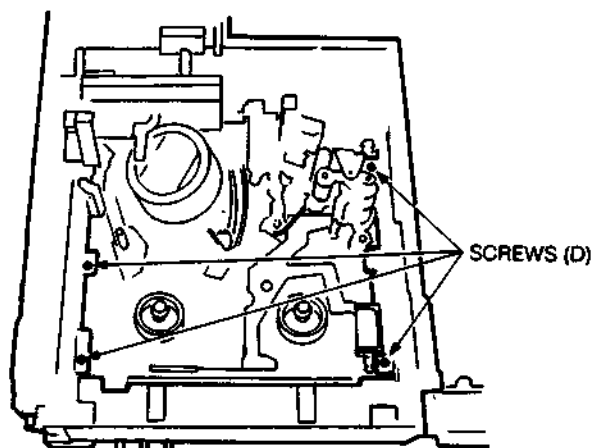

Fig. 4-22
7. Tighten the 4 screws (D) as shown in Fig. 4-22.